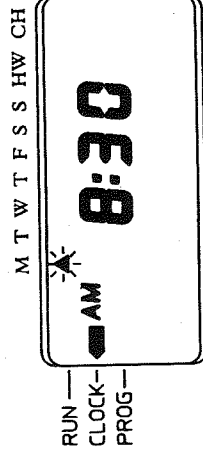

Fig. 2
- (a) Press the SET button so that the INDICATOR points to the CLOCK position. The DAY INDICATOR will now flash (Fig. 2).